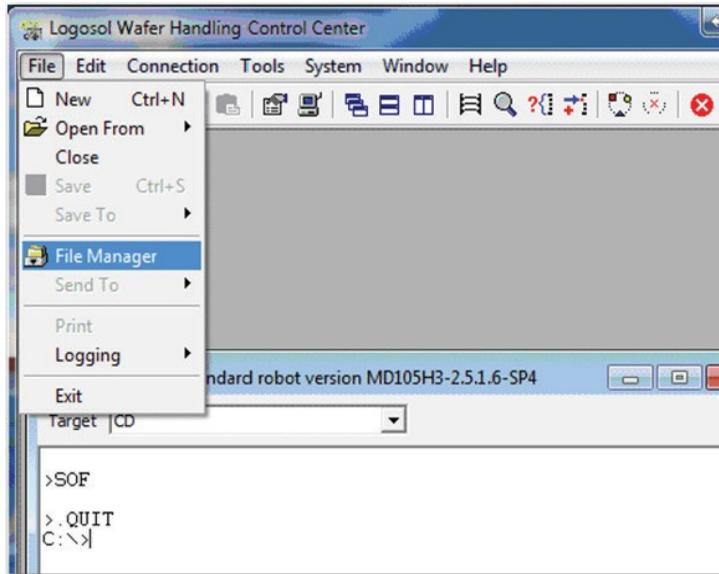

FIGURE 6-3: Opening the File Manager
7. From the Logosol Wafer Handling Control Center window, click **File** and then **File Manager**. See Figure 6-3.